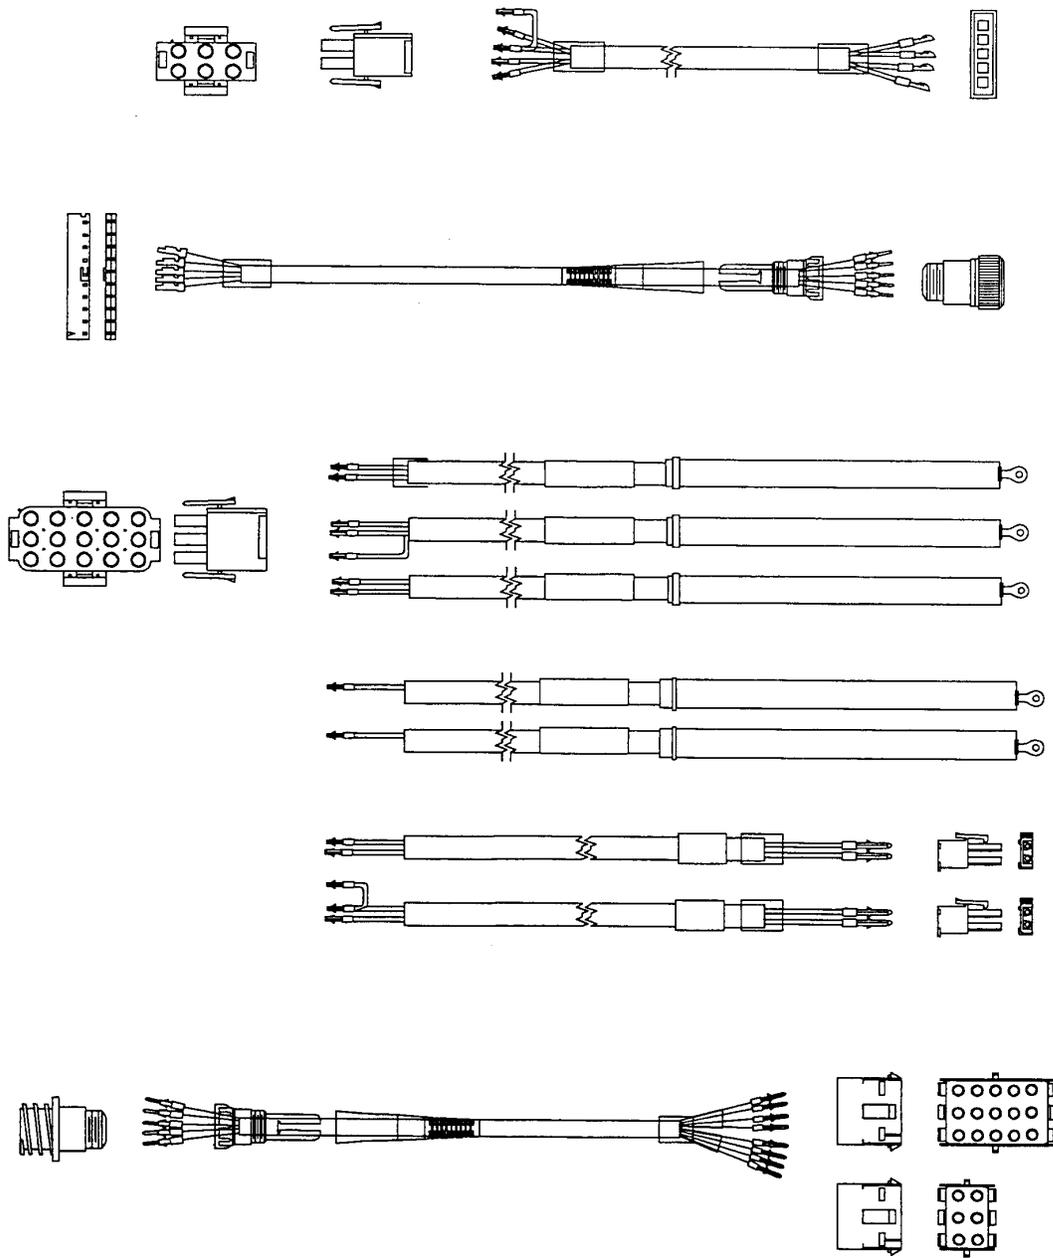

Figure 3-2: Battery Cable Sets
- Battery Cable Sets (4) (Figure 3-2)
- Cable Ties (6)